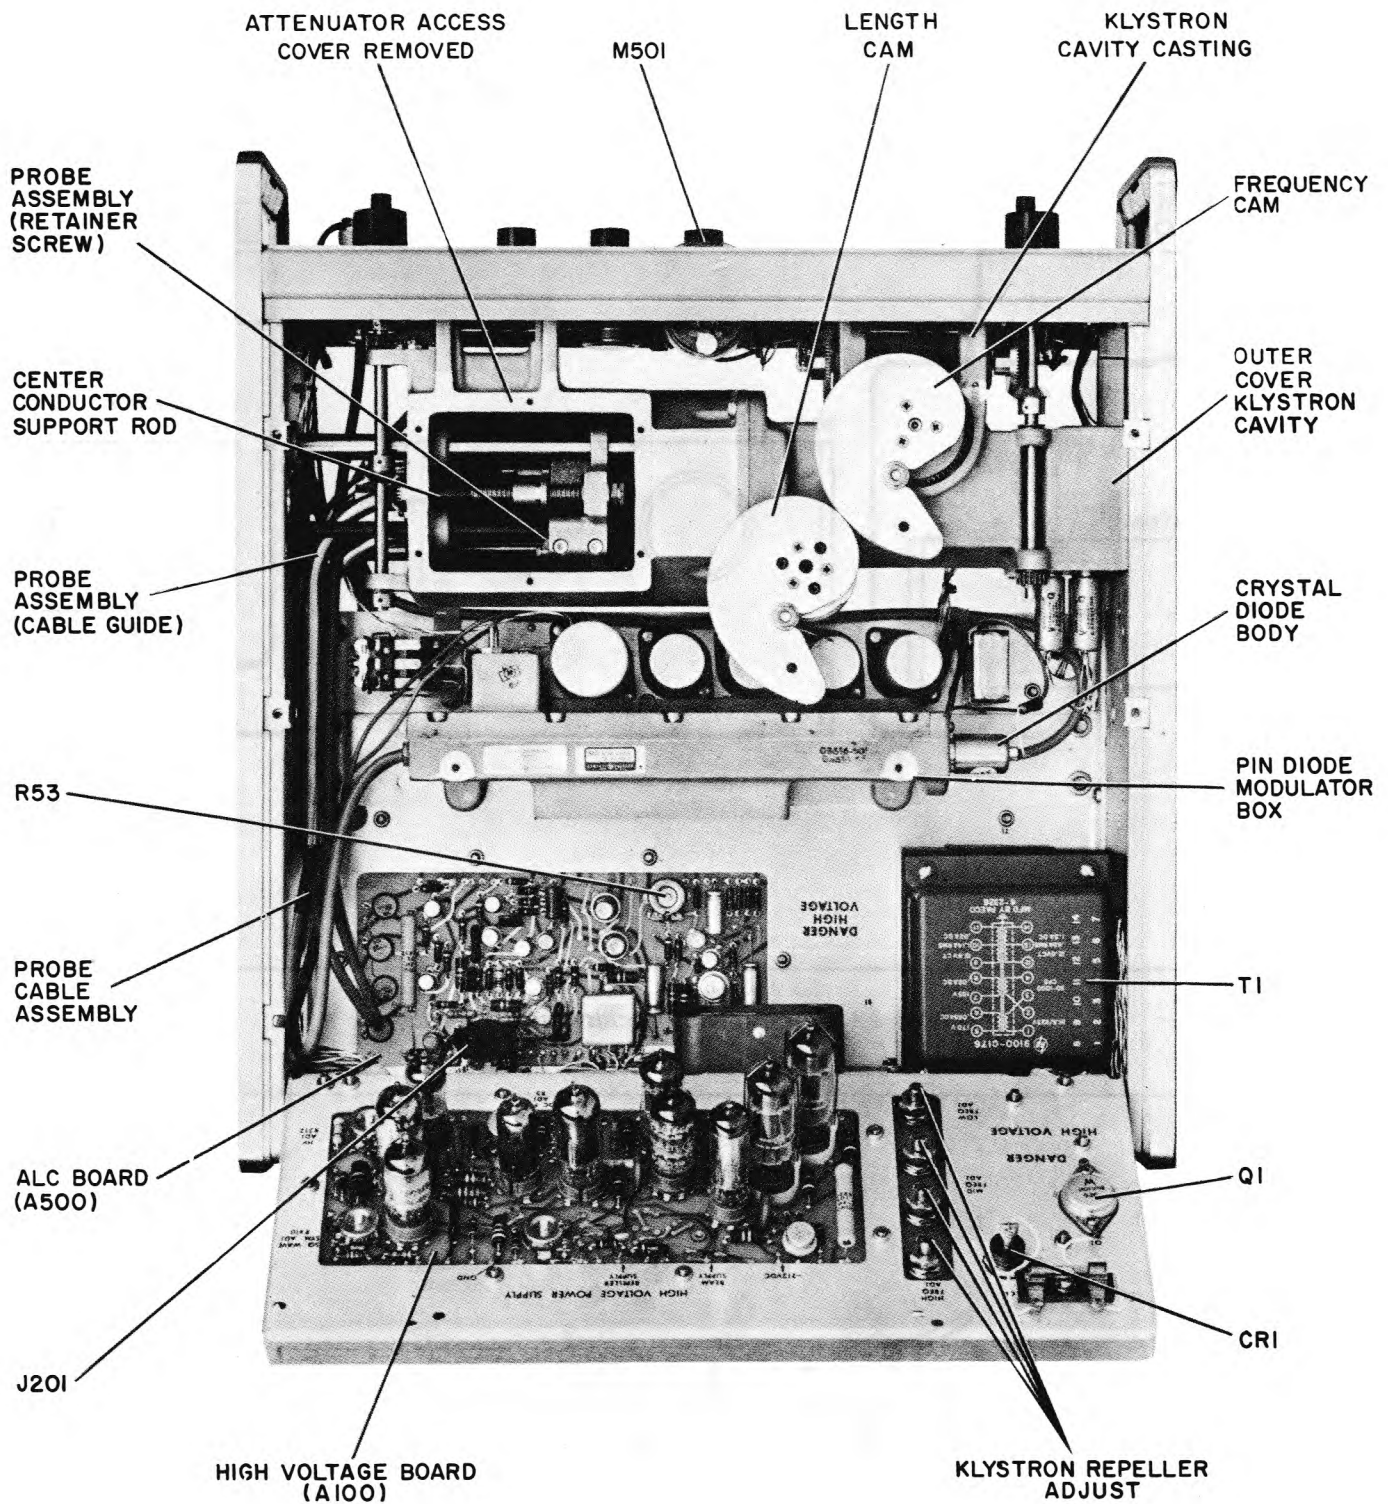

Figure 5-11. Top View, Cover Removed
5-50. If it is necessary to replace the cam cable, order it by HP Stock No. 08614-299 and description of usage. For easier access to the cams, remove the screws holding the High Voltage circuit board and swing the board out of the way. Use Figures 5-11 and 5-13 as a guide and proceed as follows:
d. Orient Length Cam to Frequency Cam as shown in Figure 5-11.